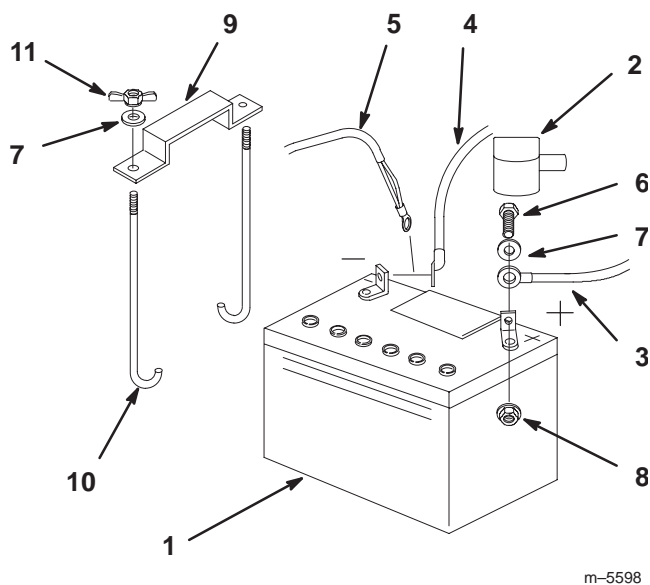

Figure 60
1. Position battery in tray with terminal posts toward the engine (Fig. 60).
4. Secure cables with 2 bolts (1/4 x 3/4 in.), 2 washers (1/4 in.), and 2 locknuts (1/4 in.) (Fig. 60).
6. Secure battery with J-bolts, hold down clamp and 2 washers (1/4 in.), and 2 wing nuts (1/4 in.) (Fig. 60).
3. First disconnect the negative battery cable and ground wire from the negative (–) battery terminal (Fig. 60).
4. Slide the red terminal boot off the positive (red) battery terminal. Then remove positive (red) battery cable (Fig. 60).
5. Remove both wing nuts (1/4 in.) securing the battery clamp (Fig. 60).